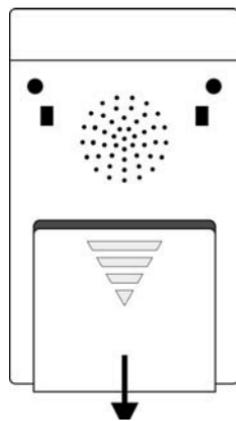

Figure 1: Battery compartment
- a) At the rear side there is a battery compartment, its cover can be pushed downwards so that the compartment opens (fig. 1).